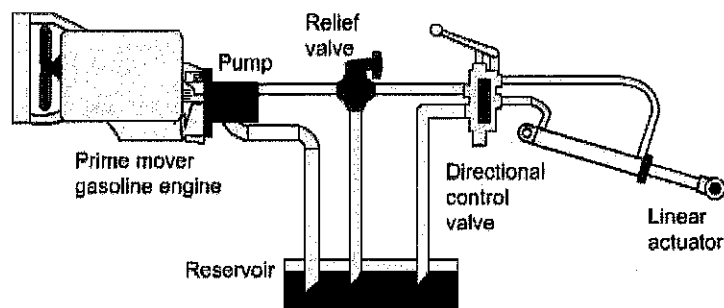

Figure A2c / *Rajah A2c*
- c) Construct the hydraulic system circuit in Figure A2c.